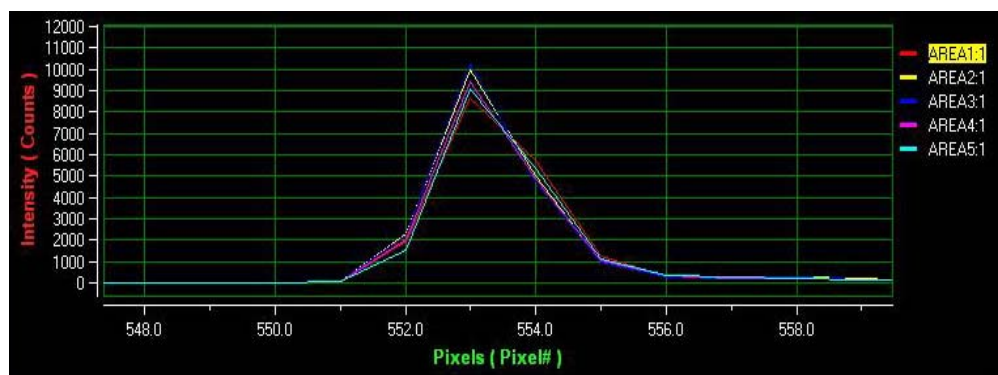

Figure 7. Example of a Focused and Aligned CCD
9. When aligned, the 5 spectra will overlap, displaying similar intensity. Each pixel should be 5 pixels wide at FWHM (see Figure 7 on the following page). If alignment must be adjusted, loosen the multi-channel adaptor mounting screw and rotate the detector head right or left in the focal plane, continuously acquiring spectra until the desired result is observed.